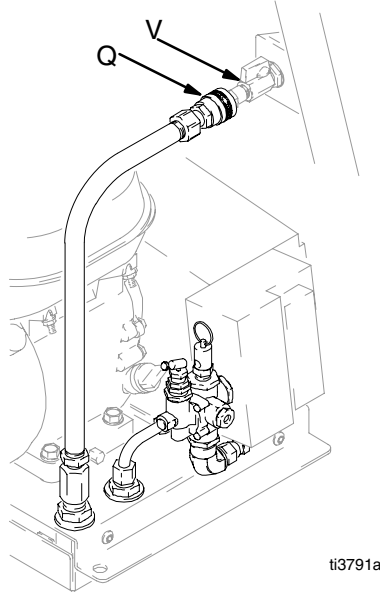

Fig. 3
1. Disconnect air line quick connect fitting (Q) from compressor air quick connect fitting (V). See Fig 3.